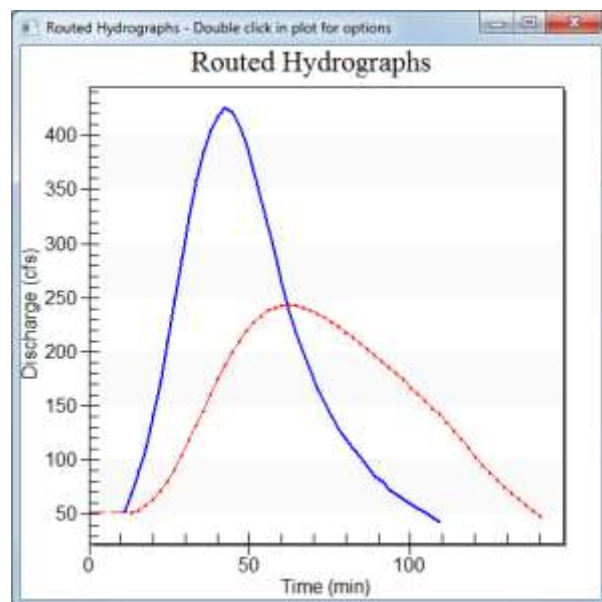

Figure 6 Routed Hydrographs dialog
4. Click **Plot Hydrographs...** to bring up the *Routed Hydrographs* dialog (Figure 6).